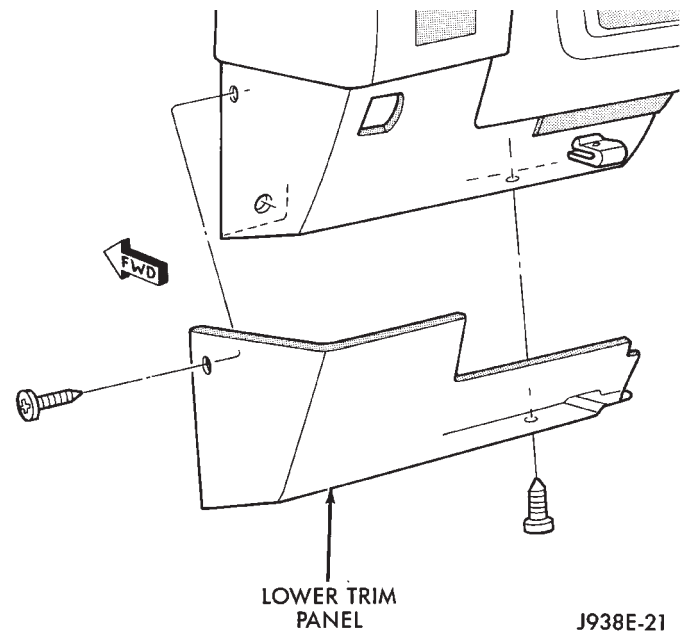
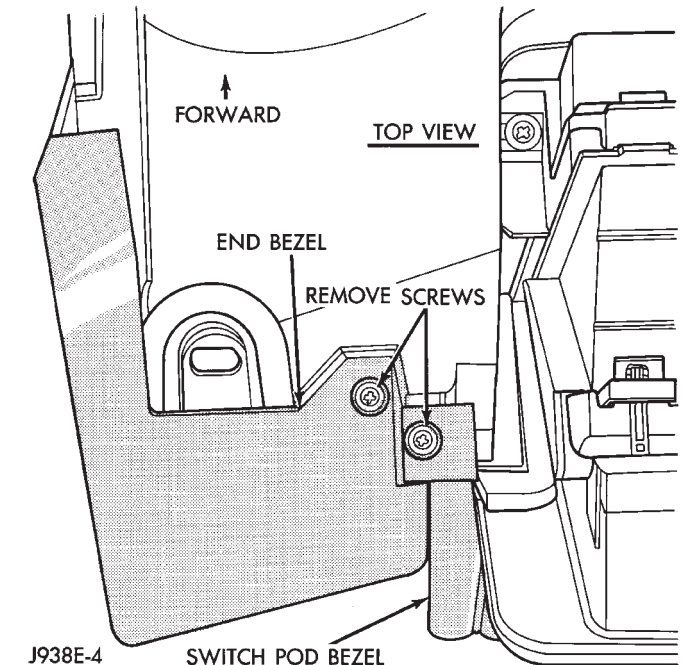

Fig. 9 Lower Trim Panel
Fig. 10 Remove Screw Holding Top Of Bezel
(13) With driver's door open remove 1 screw from the side of the lower trim panel (Fig. 9).
(14) Remove 1 screw from bottom of lower trim panel and pull panel off. There is also a clip holding the panel to the instrument panel.
(15) Remove 1 screw holding top of mirror switch bezel (Fig. 10).